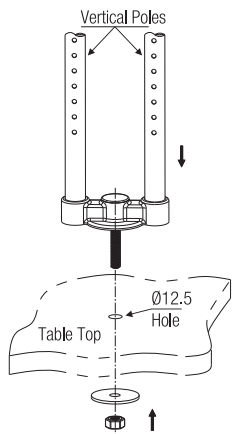

Fig. 1.
2. Fix the vertical poles as shown in Fig. 1.